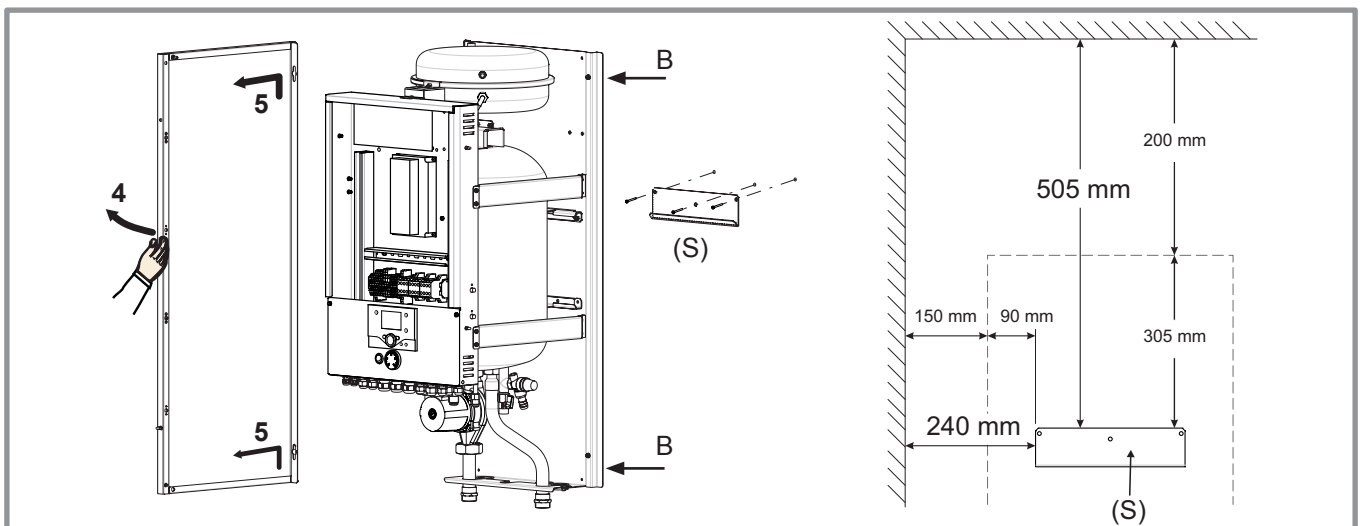

figure 15 - Removing the sides and fixing the support
- Remove the sides (4 screws **B**, figure 15).